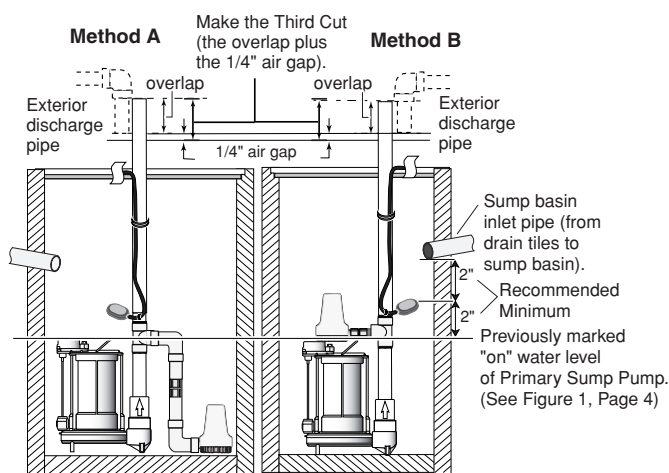

**Figure 6 – Double pump and float switch installation**
8. Mount the float switch assembly (Key No. 8) loosely to the discharge pipe with the cable ties (Key Nos. 8A & 8B). Approximately 2-1/2" (63 mm) of cord length should be left between the float and the clamp. Adjustments may be needed; do not tighten the cable ties. See Figure 6.